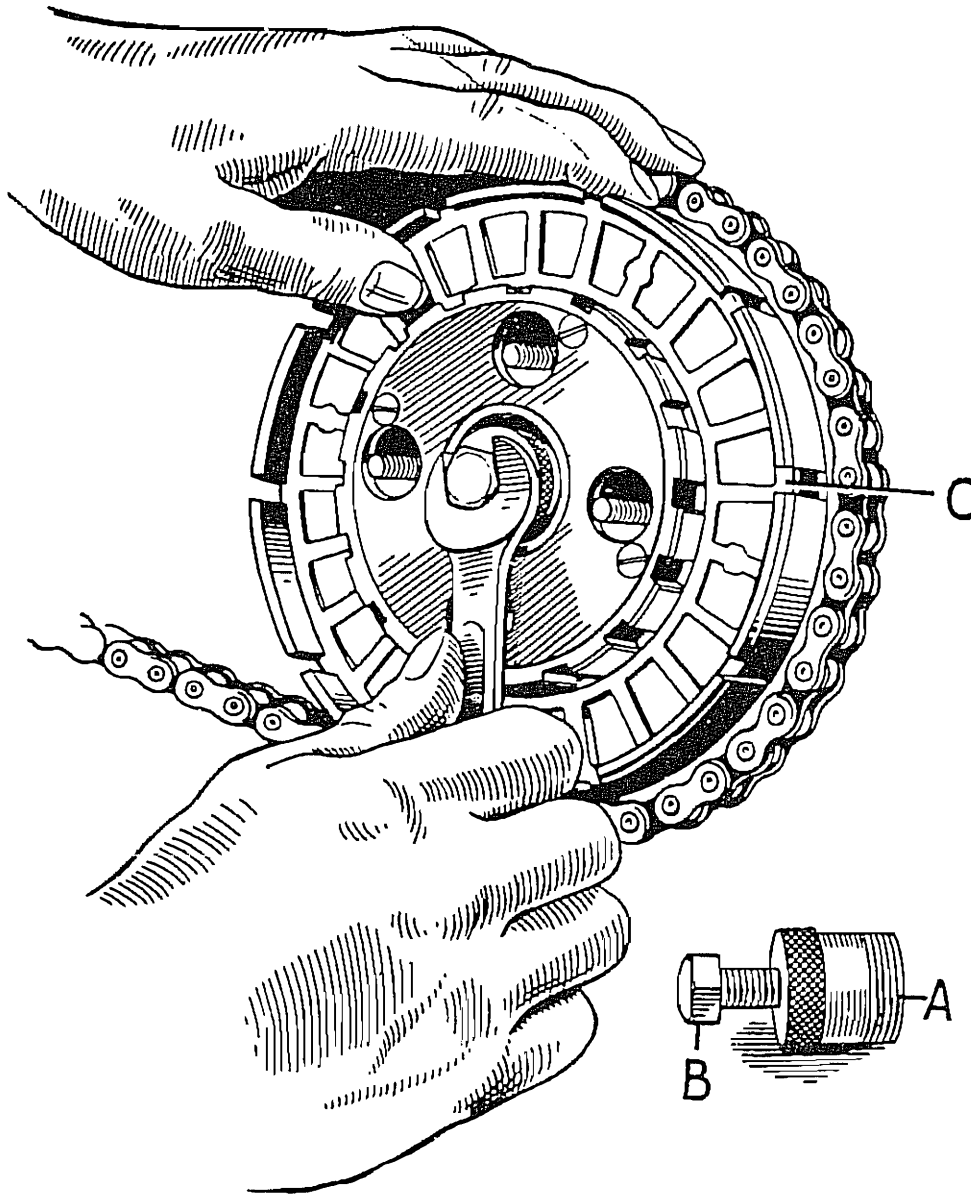

Fig. 31.
**Clutch Housing.** To remove this unit, screw the tool Part No. DA50/1 seen in Fig. 31 into the clutch centre and by turning the centre bolt the clutch housing assembly will be extracted from the shaft. Holding the extractor tool in the right hand and gripping the engine sprocket in the left, remove both sprockets and chain as an assembly.